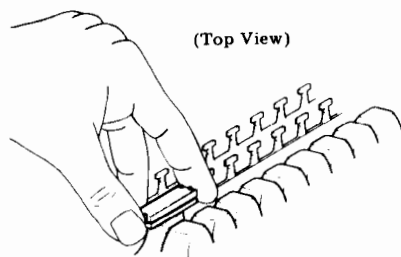

Fig. 16—Cable Connector Removal
- (f) Exert upward force until cable connector releases (Fig. 16).
- (e) Grasp the cable connector using thumb and index finger (Fig. 16).